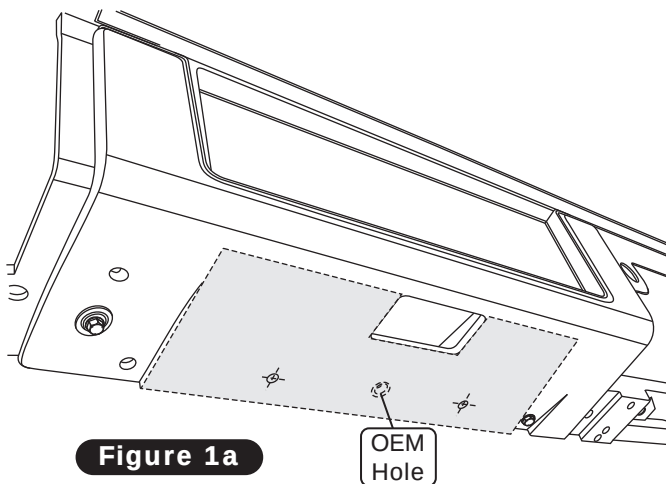

Figure 1a
2. Once the template is aligned correctly and taped into place, mark the mounting holes on the dash. Once the holes are marked in the correct location, remove the template and drill (2) 3/16" holes in the dash for the center louver bezel (See Figure 1a, below).
3. Reinstall the center console (if equipped) (See Figure 1a, below).